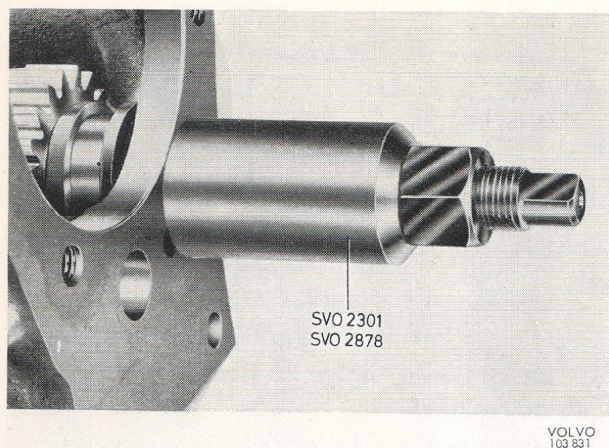

Fig. 23. Removing the reverse gear
10. Take out the idler gear. Pull out the shaft for the reverse gear. Use puller SVO 2301 for early prod. shafts with milled groove and SVO 2878 for shafts with turned groove, see Fig. 23. Take out the reverse gear and other parts.